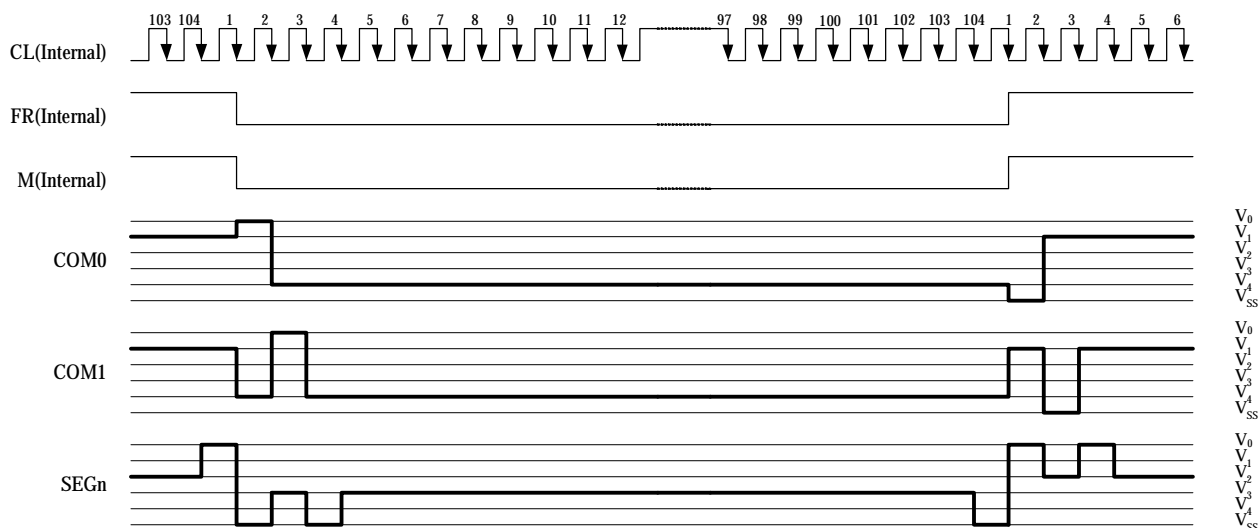

Figure 7.8.1 2-frame AC Driving Waveform (Duty Ratio: 1/104)
This circuit generates some signals to be used for displaying LCD. The display clock, CL (internal), generated by oscillation clock, generates the clock for the line counter and the signal for the display data latch. The line address of on-chip RAM is generated in synchronization with the display clock and the display data latch circuit latches the 104-bit display data in synchronization with the display clock. The display data, which is read to the LCD driver, is completely independent of the access to the display data RAM from the microprocessor. The display clock generates an LCD AC signal (M), which enables the LCD driver to make an AC drive waveform, and also generates an internal common timing signal and start signal to the common driver. The frame signal or the line signal changes the M by setting internal instruction. Driving waveform and internal timing signal are shown in Figure 7.8.1.